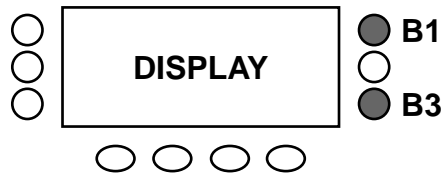

fig.1
Step 1 : Hold down button B1 & B3 (see fig.1) while plugging in the mains.